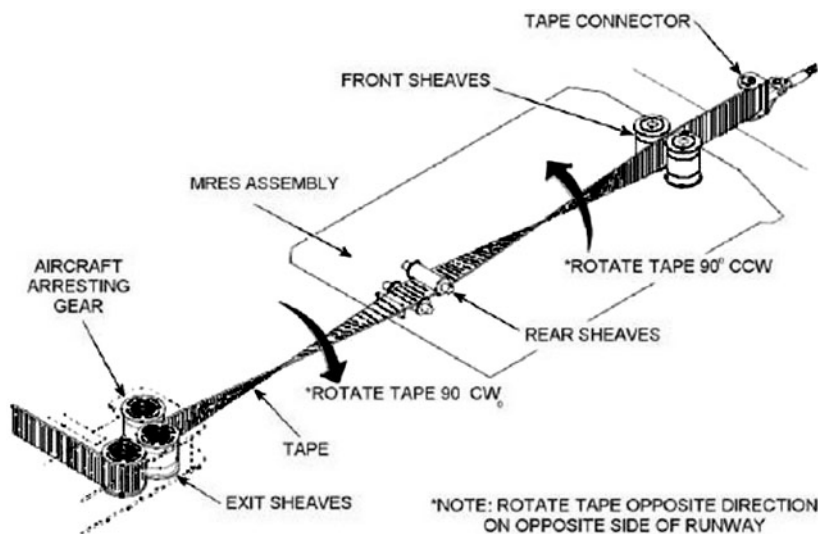

Figure 1-52. MRES tape reaving.
3. Reeve the tape through the MRES as follows (see figure 1-52).
- a. Rotate tape 90 degrees clockwise (CW) to the horizontal and insert tape between the sheaves of the MRES rear sheave assembly.
5. Repeat steps (1) through (4) for the opposite side of the runway. Rotate the tape counterclockwise and clockwise, respectively.